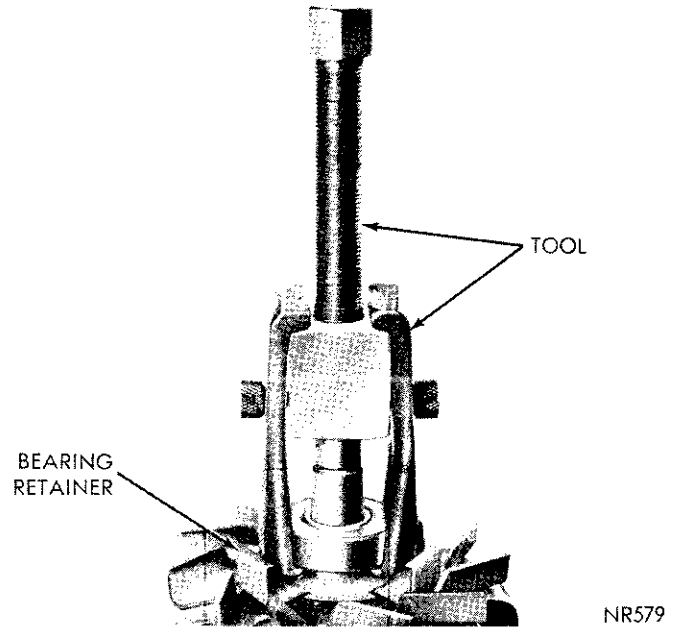
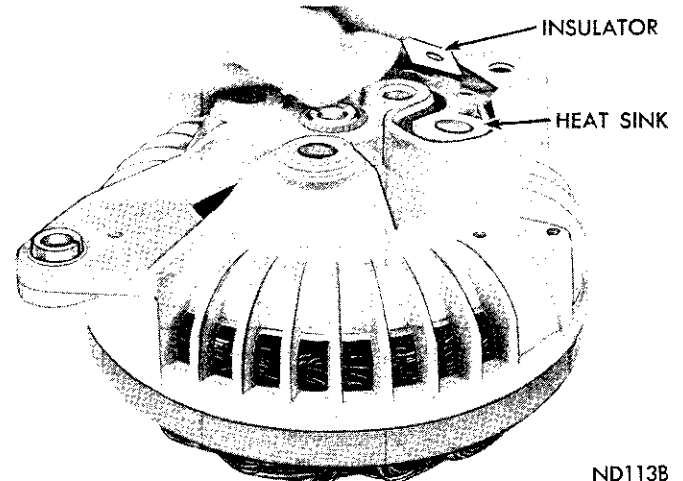

Fig. 19—Removing Bearing from Rotor Shaft
Fig. 20—Removing Heat Sink Insulator
(9) The drive end ball bearing is an interference fit with the rotor shaft. Remove bearing with Puller Tool C-4068, (Fig. 19).
(10) Remove output terminal nuts and washers and remove terminal screw and inside capacitor. The heat sink is also held in place by the terminal screw.
(11) Remove insulator (Fig. 20).
(12) The needle roller bearing in rectifier end shield is a press fit. If necessary to remove rectifier
(10) The alternators have the capacitor mounted internally. Make sure heat sink insulator is in place (Fig. 20).
(11) Install output terminal screw and capacitor through heat sink and end shield.
(12) Install insulating washers, lockwashers and lock nuts.
(13) Make sure heat sink and insulator are in position then tighten lock nut.
(14) Position stator on rectifier end shield.
(15) Position rotor and end shield assembly on stator and rectifier end shield assembly. Align through bolt holes in the stator, rectifier end shield and drive end shield.
(16) Compress stator and both end shields by hand and install through bolts, washers and nuts. Tighten